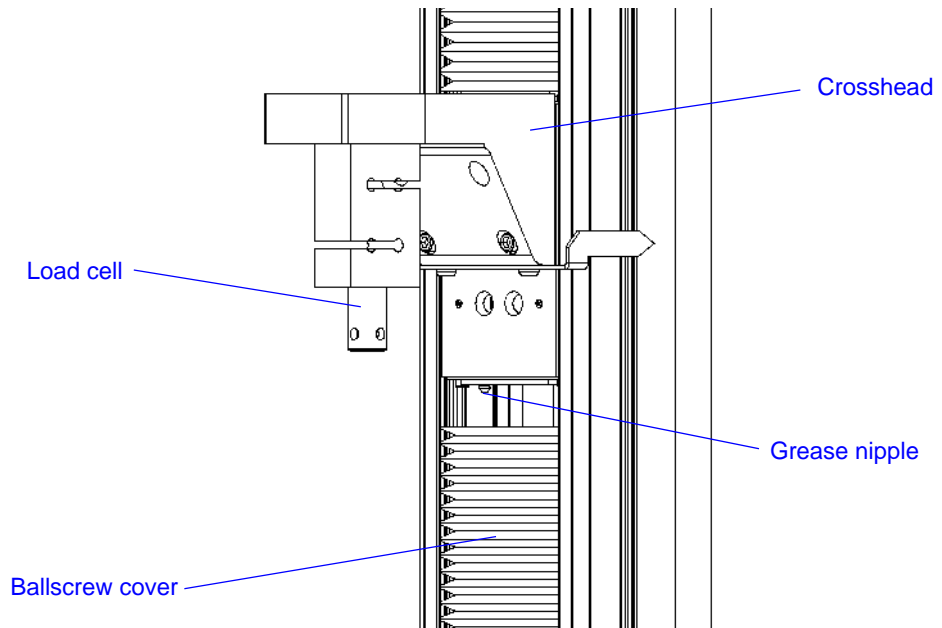

Figure 5-1. Lubricating the Ballnut - 3342, 3343 and 3344 Frames
1. Turn the power switch to the Off (O) position and disconnect the power cable from the main power source. Ensure that the **POWER** indicator light does not illuminate.
2. Detach the bottom ballscrew from the crosshead and slide it to the frame base. Refer to Figure 5-1 on page 5-6 to locate the grease nipple inside the column cover.
3. Use a grease gun to apply the grease into the grease nipple as shown in Figure 5-1 on page 5-6.